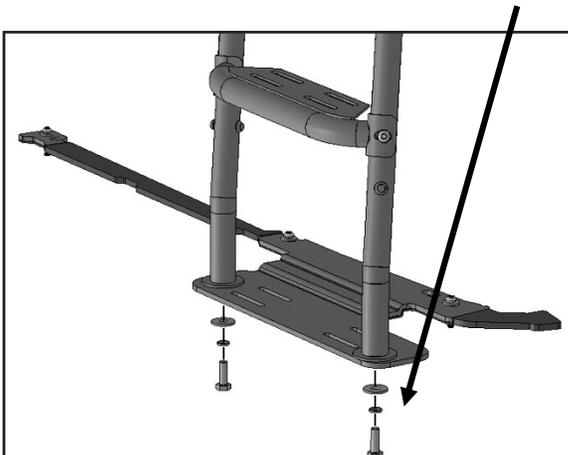

FIGURE 22
16. With assistance, carefully lift the rear Corner Assembly up and onto the rear Brackets. To prevent damaging the finish, refrain from sliding the ends of the tubes onto the brackets. Attach the Rear Corner Assembly to the driver/left rear Bracket with the included (2) 10mm x 30mm Hex Bolts, (2) 10mm Lock Washers and (2) 10mm Flat Washers, **(FIGURE 22)**. Leave hardware loose at this time. Repeat this Step to attach the passenger/right side of the assembly.